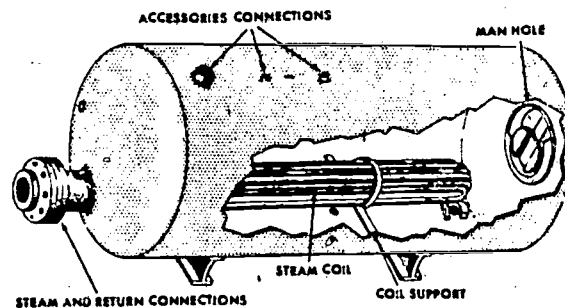

Figure 61. The storage-type hot-water heater.
33. *Storage type.* The storage-type of hot-water heater is used to provide potable (drinkable) water that can be taken internally. The steam-operated storage-type of hot-water heater consists of a steel tank that contains a steam-heating coil like that shown in figure 61. The hot-water tank is connected to the base water supply system and remains full of water at all times.